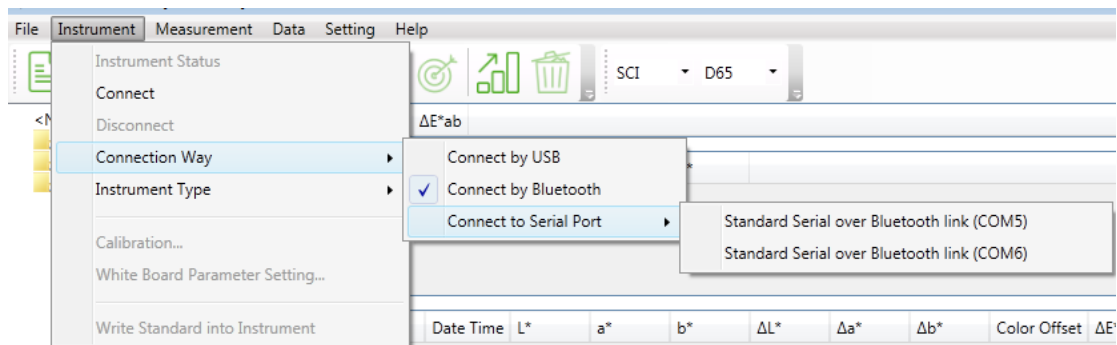

Figure 18 Connect to the Bluetooth port on the serial port under "Connect to Serial Port "menu
4. After the addition is complete, the instrument's Bluetooth device will be mapped to a serial device, then in the SQCX "Instrument" menu under the "Connect to Serial Port" to select the corresponding serial port (Figure 18). The instrument's Bluetooth device is mapped to two or three serial ports, and only one can be connected, try to connect one by one.